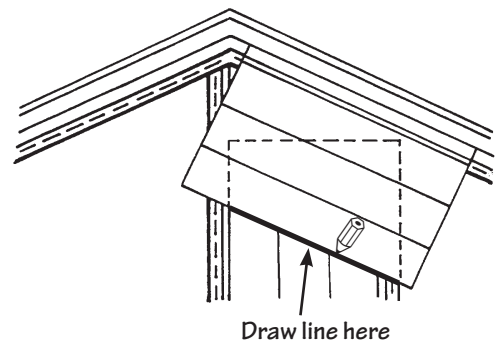

Figure 61.
- Make a pattern for end cuts along the gable using two pieces of scrap siding (Fig. 61). Lock one piece into the vertical strip at the center of the wall. Hold the edge of the other piece against and in line with the roof line. Mark the slope on the vertical piece and cut along that line. Use it as a pattern to mark and cut the ends of all other panels required for this side of the gable end. Make another pattern for the other side of the gable.